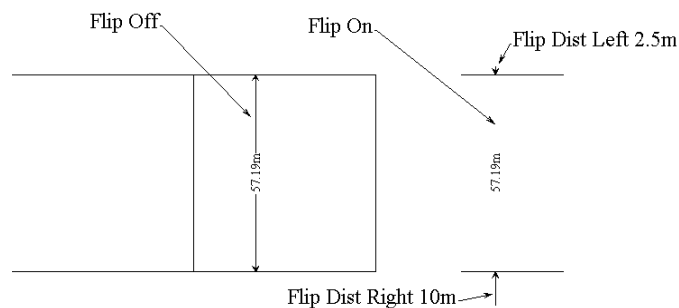

Figure 2-55 - Dimension Arrow Flipping
- Flip Distance:** Left and Right - Enter the length of each arrow required if "Flip" is used. (See Figure 2-55).